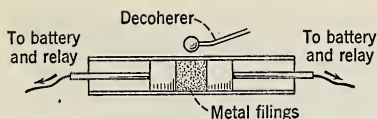

FIG. 767. A type of coherer as used by Marconi to detect wireless signals.
1. *The coherer.* This simple form of detector was made from a tube which contained a mixture of metal filings. (See Fig. 767.) Two metal plugs made contact with the filings, and they were connected in series with a battery and a relay, which acted as a circuit closer for a telegraph sounder. Normally, the filings offered so much resistance that the battery current was too feeble to operate the relay. When the Hertzian waves came into contact with the iron filings, they caused them to cohere. Their resistance was reduced and enough current flowed through them to operate the relay and produce the signal.